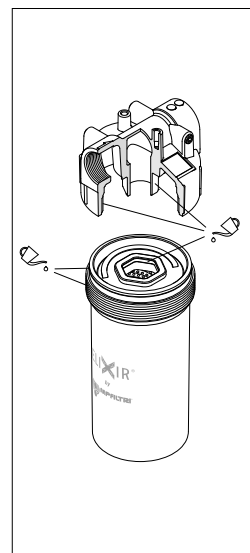

fig. 5
- (Fig. 5) Lubricate with the operating fluid the filter housing tap, the filter element and bowl seals, and the threads of head cavity and bowl